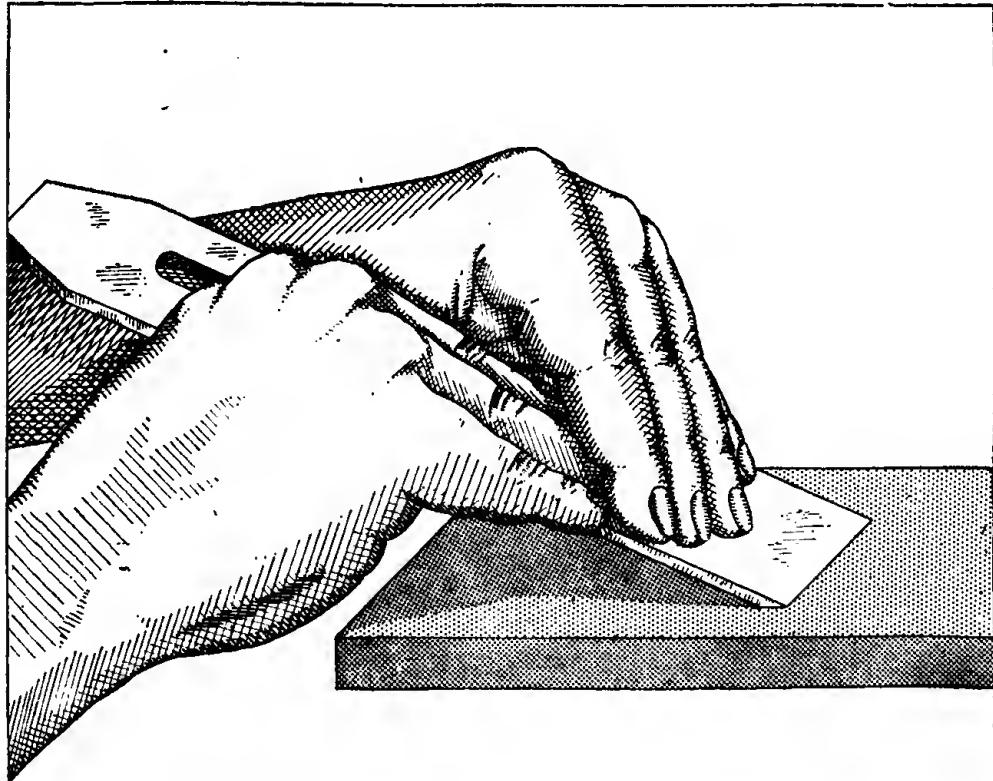
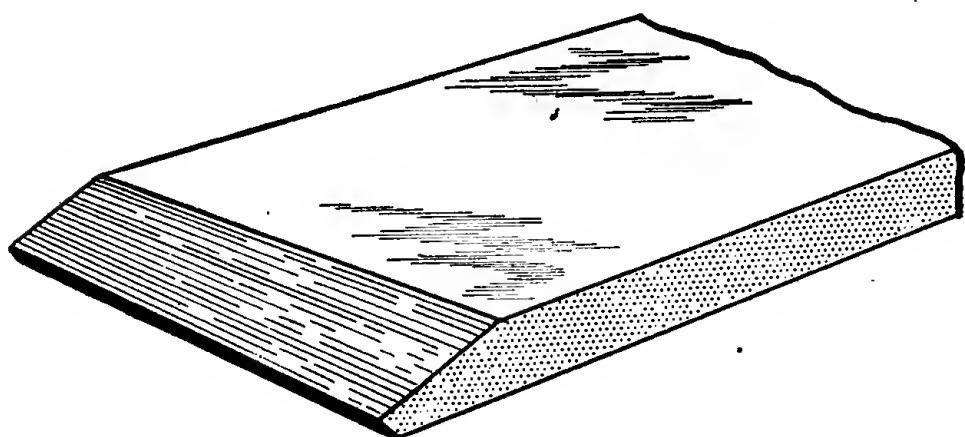

Figure 98. Sharpening a plane blade.
Figure 100. Result of improper sharpening of a plane blade.
(3) To sharpen a plane blade it should be held on an oil stone as shown in figure 98. Held in this position, it is moved around on the stone. The movement may be back and forth, circular, or figure eight, but it should cover the entire surface of the stone so that the stone will wear evenly. The rubbing against the stone should be continued until the wire edge is developed on the back of the edge. (See fig. 99.) The blade is then turned over, laid flat on the oil stone, and moved around in order to bend the wire edge the other way. It must be laid flat or the blade will have a bevel on the back and will not cut properly. (See fig. 100.) The blade is then turned over and rubbed on the beveled edge again. This